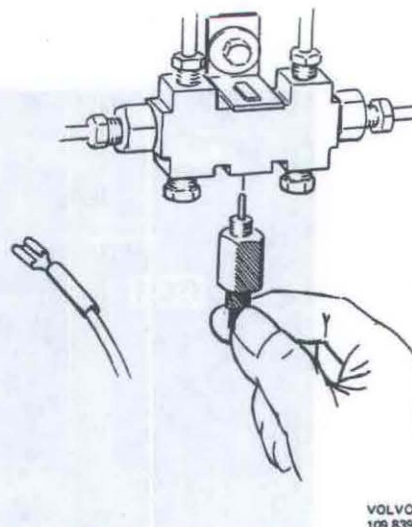

Fig. 46-110. Removing the contact
7. Bleed the wheel cylinders. The pressure-difference contact should be removed before bleeding, see Fig. 46-110. If a bleeder unit is used, the working pressure should be 0.2 MPa (2 kp/cm2 = 28 lbf/in2). For more detailed instructions about bleeding, see Part 5.